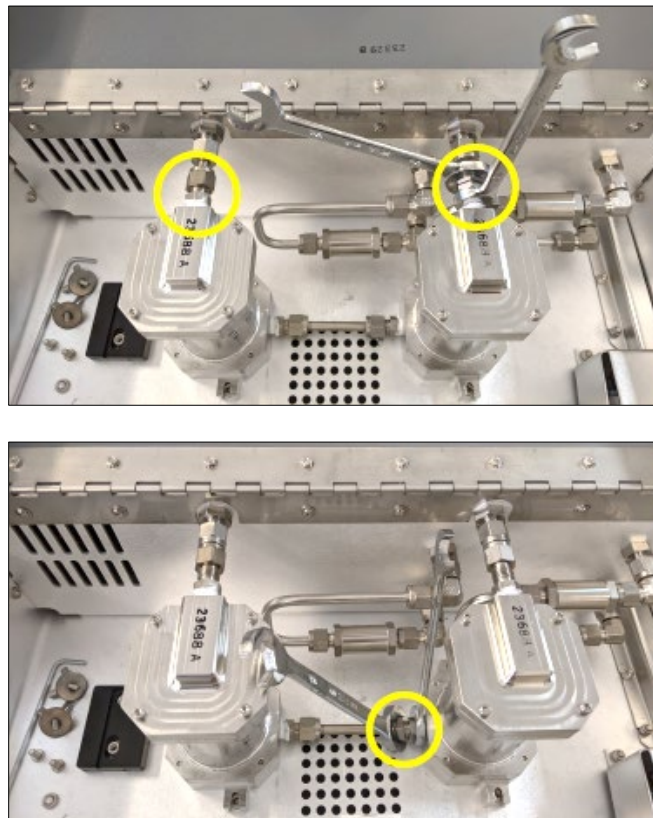

Figure 45: Disconnecting Scrubber Swagelok Fittings
4. Unscrew the indicated Swagelok connections (Figure 45) with the available 1/2" and 9/16" wrenches. (Be sure to use both available wrenches and hold the connection attached to the scrubber housing in place when loosening the Swagelok connection.)